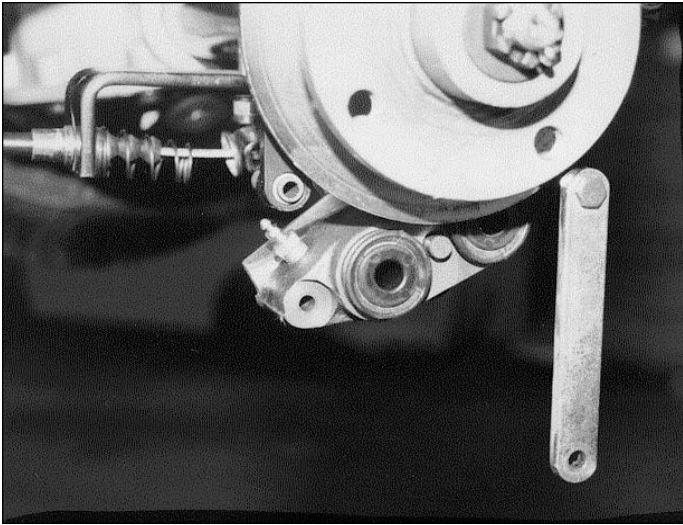

Figure 19 - Remove Disk Brake Pad
1. If the brake disc or pads require replacement, remove only one holding bolt that retains the caliper. See Figure 19.